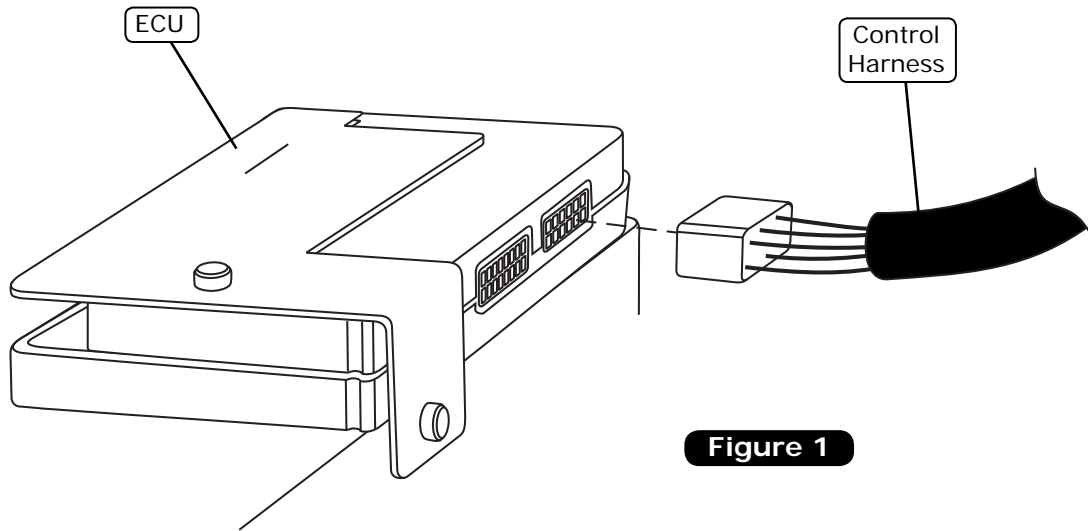

Figure 1
1. Plug the other end of the control harness into the ECU as shown in Figure 1, below.